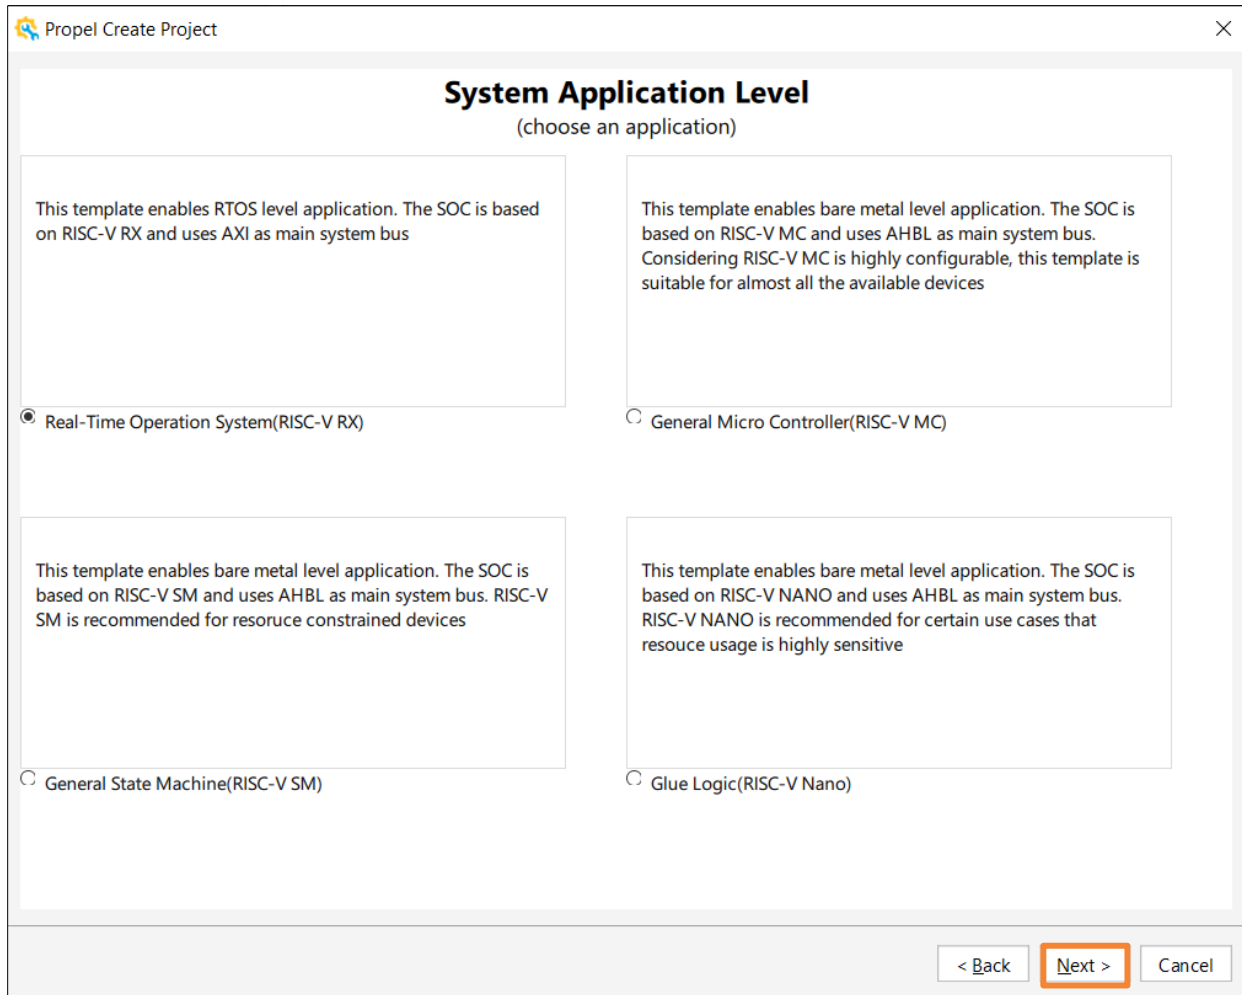

Figure 2.20. Scalable Wizard – System Application Level
2. Enter the **Propel Create Project** wizard. From the **System Application Level** dialog, choose a template and click **Next** (Figure 2.20).